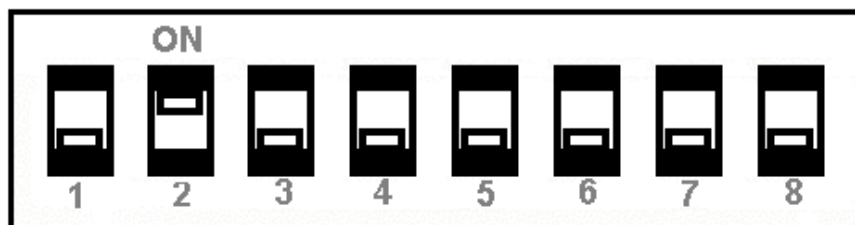

FIGURE 10: DIP SWITCH SETTINGS (SHOWING SETTING FOR BT)
- The DIP switch is located inside the battery compartment. The illustration below indicates the location of this switch. Figure 10 shows the DIP switch selection.
- The DIP switches are located inside the battery compartment. Figure 10 shows the DIP switch location.